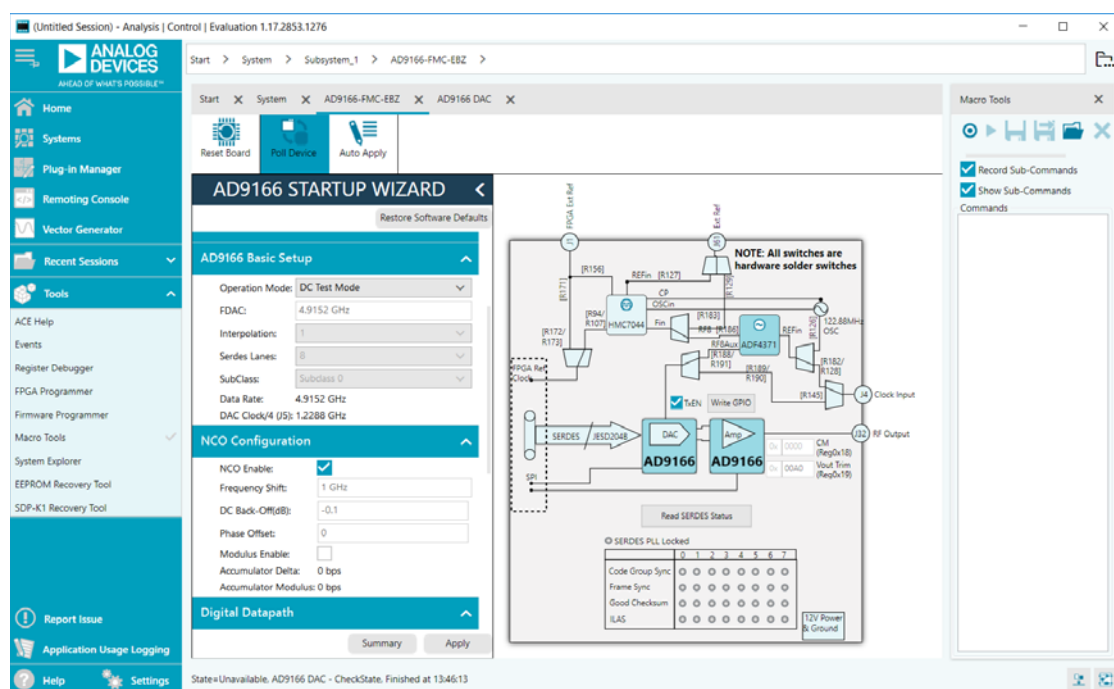
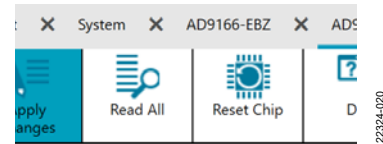

Figure 12. AD9166-FMC-EBZ Evaluation Board View and Clock Source Selection in ACE
Figure 20. **Reset Chip** in Chip View
3. Using the **AD9166 STARTUP WIZARD** on the left side of the window, follow these steps, as shown in Figure 12:
Before configuring the AD9166-FMC-EBZ evaluation board, it is a good practice to soft reset the evaluation board by clicking the **Reset Board** button in the evaluation board view of **ACE** (see Figure 12), or by clicking the **Reset Chip** button in the chip view (see Figure 20).